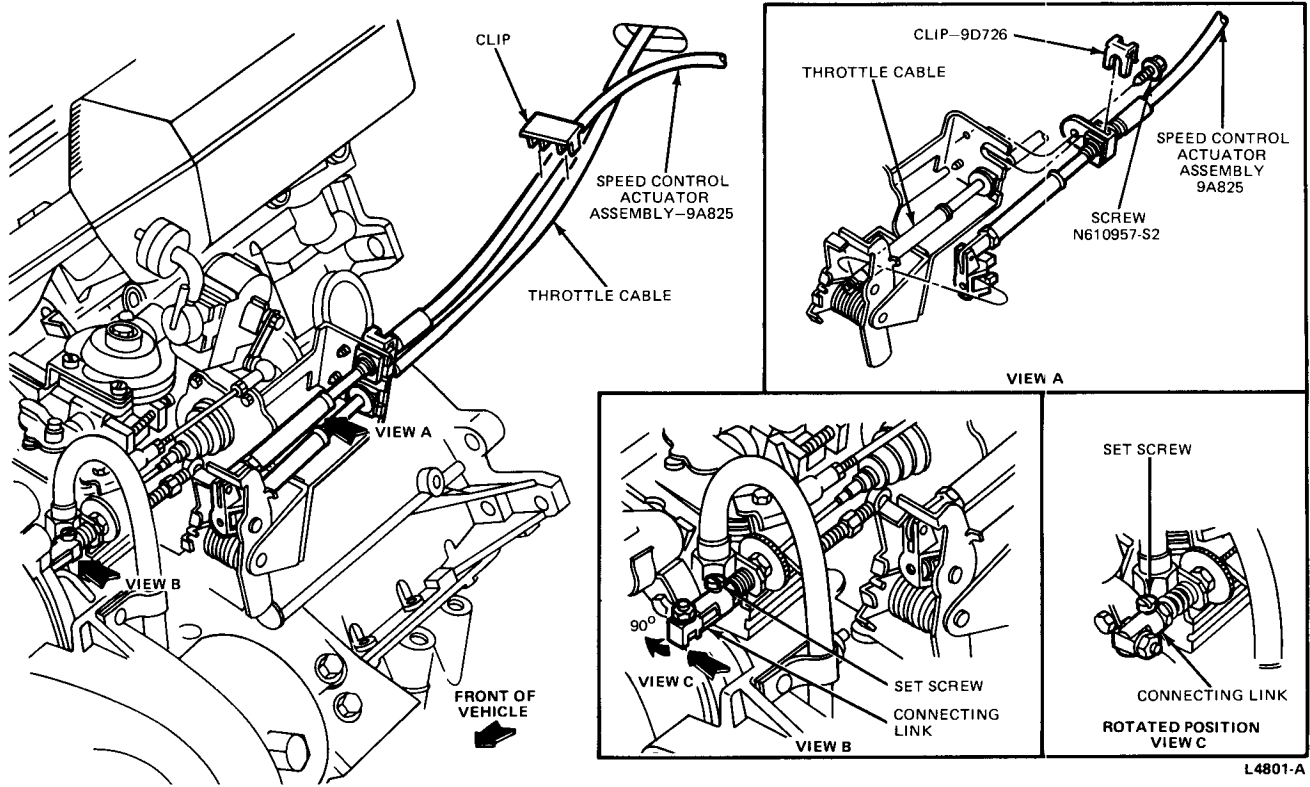

FIG. 3 Actuator Cable—Installation
2. Remove speed control cable retaining clip (Fig. 3).
1. Disconnect speed control actuator cable from accelerator cable (Fig. 3).